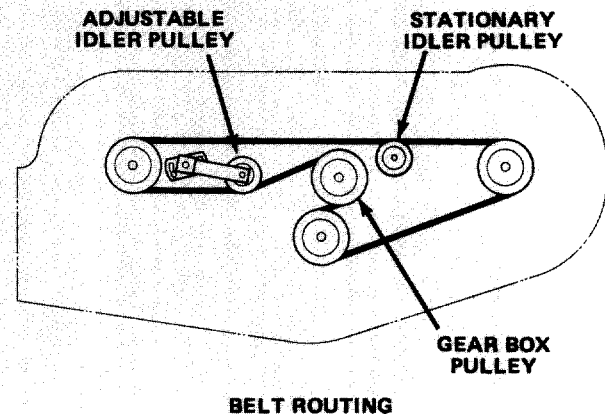

Figure 38
5. Install new belt around gear box pulley, spindle pulleys, stationary idler pulley and adjustable idler pulley (Fig. 38).